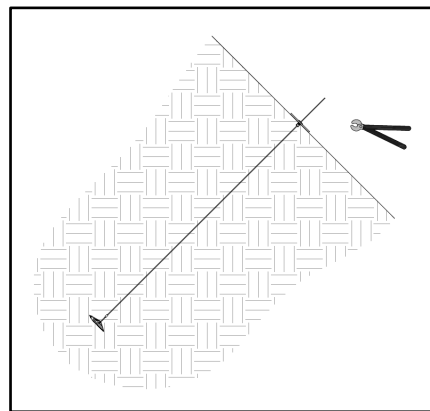
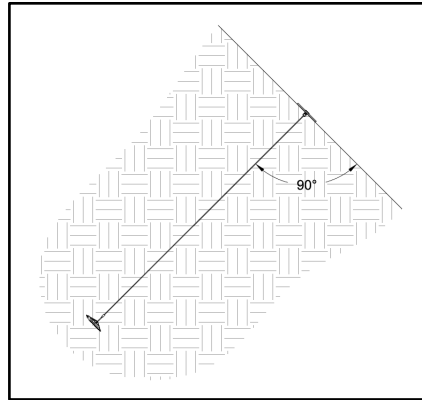

Figure 21: Trim Extra Cable Flush to Plate
Figure 22: Complete Anchor Installation
9. Once anchors have been load-locked, cut off the excess anchor tendon flush to the plate at the slope surface using wire cutters (Figure 21 and Figure 22).